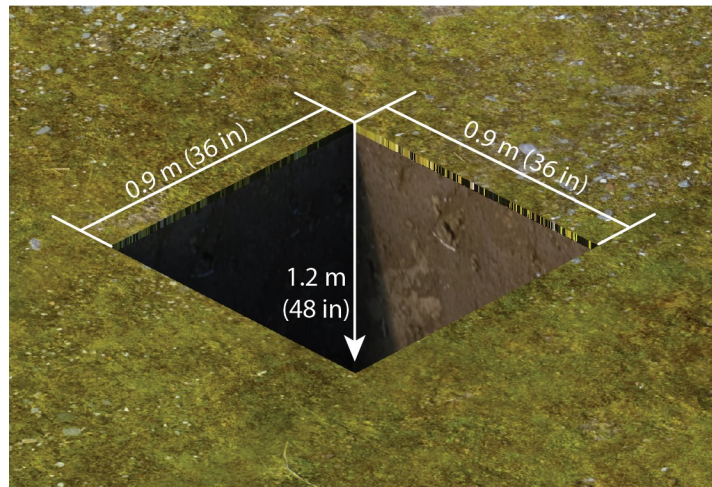

FIGURE 7-12. Hole prepared for tower base
1. Dig a hole 0.9 m (36 in) square and 1.2 m (48 in) deep where the tower base will be located (FIGURE 7-12 (p. 19)).